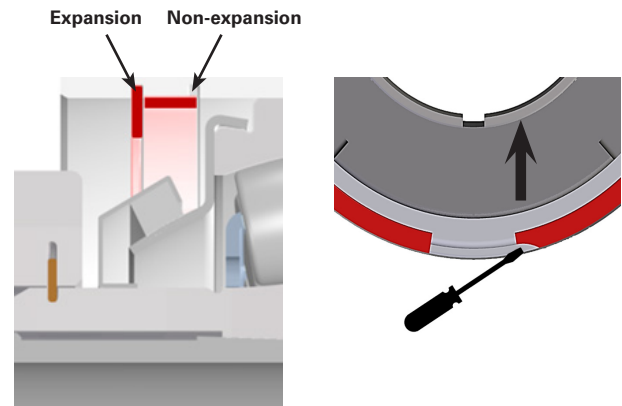

Figure 2
- Look in the housing bore on the locking end of the bearing and locate the snap ring. There are 2 snap ring grooves where the position of the snap ring determines if the bearing is a non-expansion or expansion design. **See figure 2.**